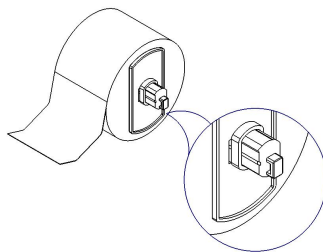

Figure 2.4.4
- 3) Load a paper roll on paper roll holder and add one paper roll guide on each side of paper roll, see figure 2.4.4.